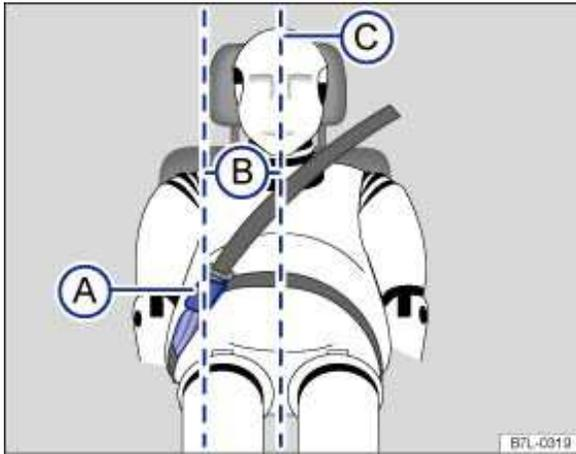

Fig. 69 Positioning of the safety belt extender.
Key to fig. 69:
- Never use a safety belt extender if the distance \Rightarrow fig. 69 \(B\) between the front edge of the safety belt extender buckle (A) and the centerline of the person using the safety belt extender (C) is less than about 6 inches (15 cm).